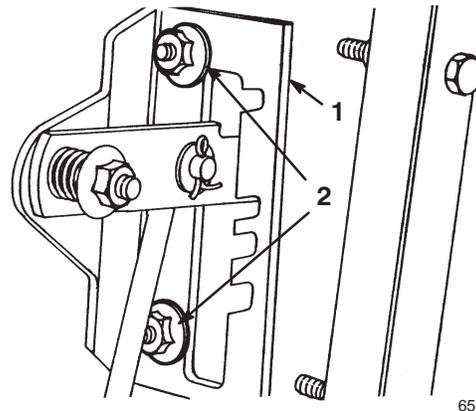

Figure 21
- 5. Loosen the flange nuts that secure the selector plate to the control panel (Fig. 21).